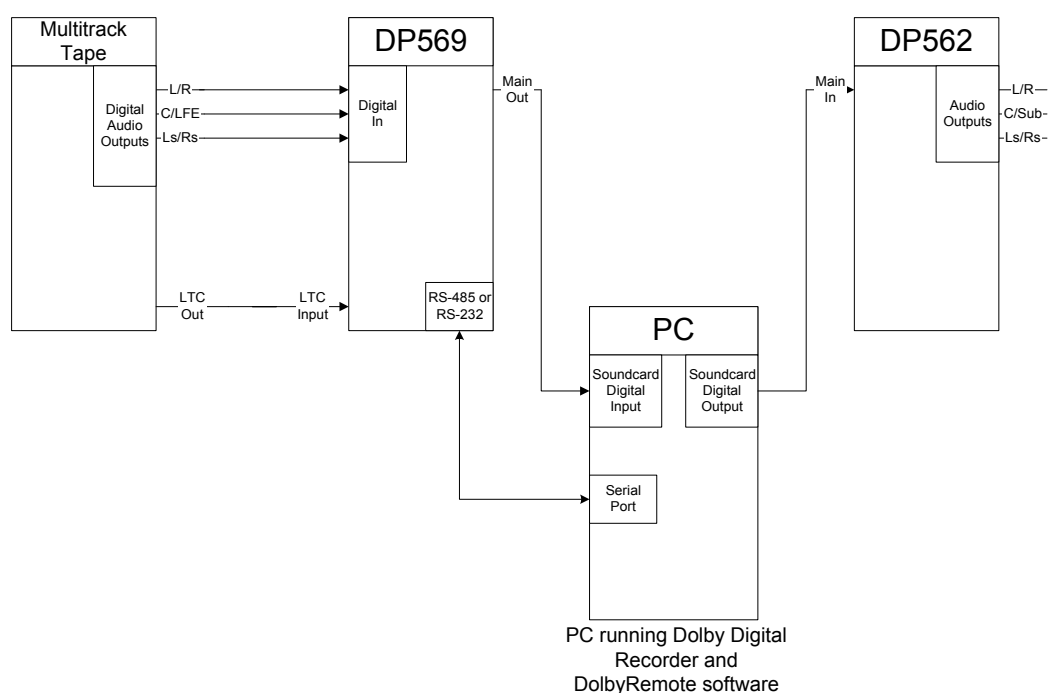

Figure 3-4 DVD Encoding System Block Diagram
This section describes the steps necessary to configure the DP569 for typical operation. Refer to Figure 3-4 as necessary.
3. Install and calibrate the DP562 Dolby Digital decoder as shown in Figure 3-4 and described the DP562 user's manual.